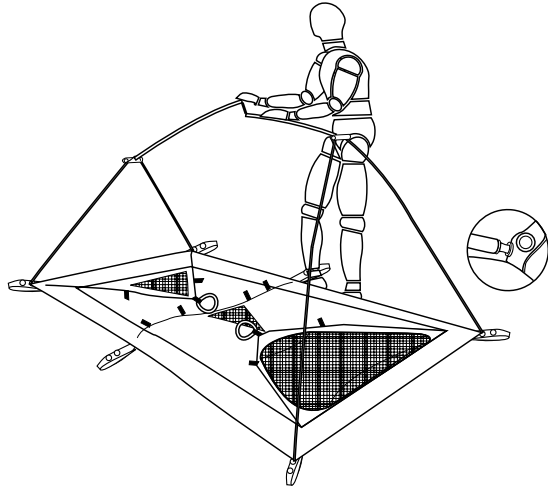

FIGURE 2
7) Place one end of the spanner through the center hole of the first junction tube. Disconnect rods in the middle of the spanner. Place opposite end of spanner through the second junction tube (See figure 2).
8) To finish installing the spanner, push down on the disconnected rods until they spring back together. This forms a free standing frame (See figure 2).